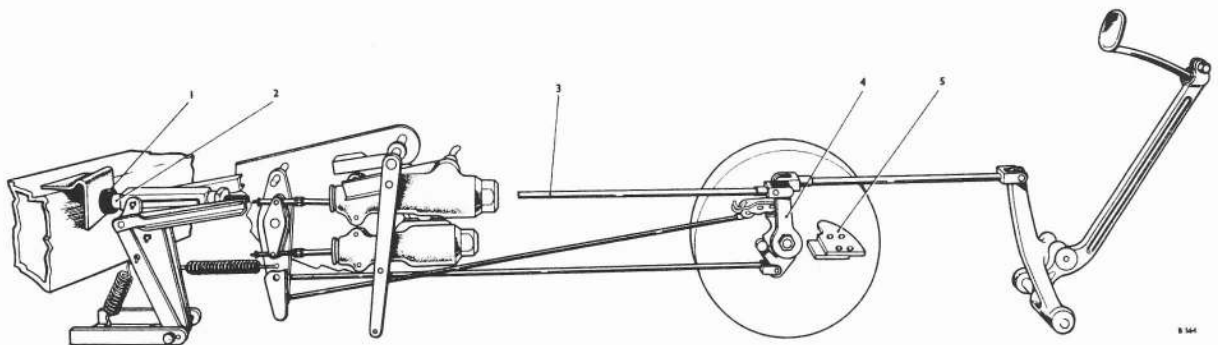

Fig. 1. 'On-stop' adjustment
1. Position the rubber 'off-stop' (see 1. Fig.1) against the bracket on the chassis frame.
2. Adjust rod (3) so that the servo outer lever (4) leans 10 deg. \pm 2 deg. towards the rear of the car when the end of the slotted link (2) is in contact with the rubber 'off-stop' (1). Tighten the lock-nut on rod (3).
3. Place a 1.000 in. distance piece between the end of the slotted link (2) and the rubber 'off-stop' (1). The 'on-stop' (5) should then be positioned so that it is in contact with the outer servo lever (4). Secure the 'on-stop' in position.